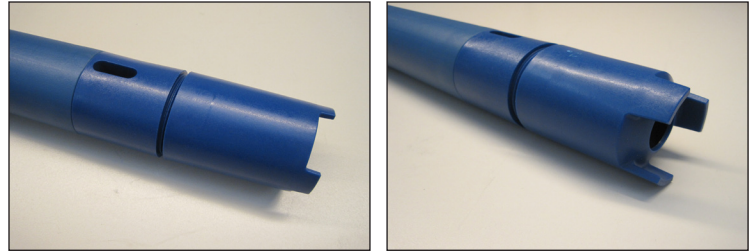
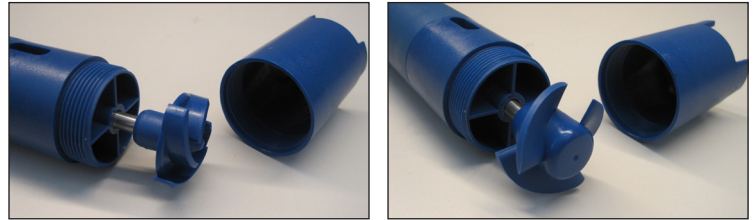

Figure 1 A & B
Figure 2 A & B
- 1. Cover, Impeller, & Diffuser Removal** - Unthread the diffuser cover (item 19 or 20). Turn it clockwise (left-hand thread). *See Figure 1 A & B.* Unthread the impeller (item 18) turning it counter clockwise (right hand thread) using your hand while holding the coupling insert and coupling (items 1 & 2) with the other hand. *See Figure 2 A & B.* Note: If the shaft unthreads from the coupling, use a pliers to hold the bottom of the shaft just above the impeller. *See figures 3 A & B.* For longer 40" to 72" pump lengths, two people may be required to hold the shaft and unthread the impeller.